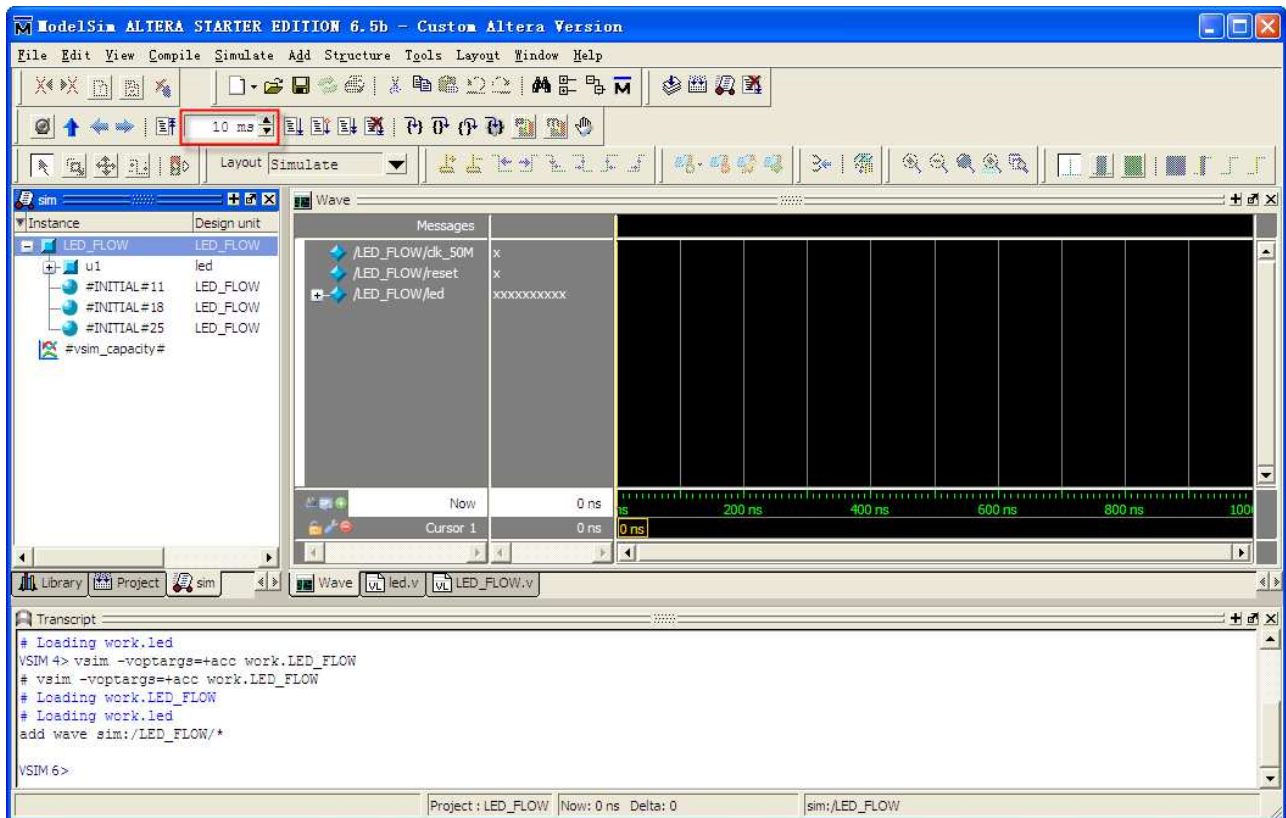

Figure 3.5 Setting Run Length
6. Input simulation time length "10ms" in the Run Length column, shown in Figure 3.5.